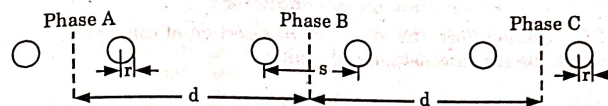

Fig. 2.10.1.
1. A bundled conductor is a conductor made up of two or more conductors, called the sub-conductors, per phase in close proximity compared with the spacing between phases Fig. 2.10.1.